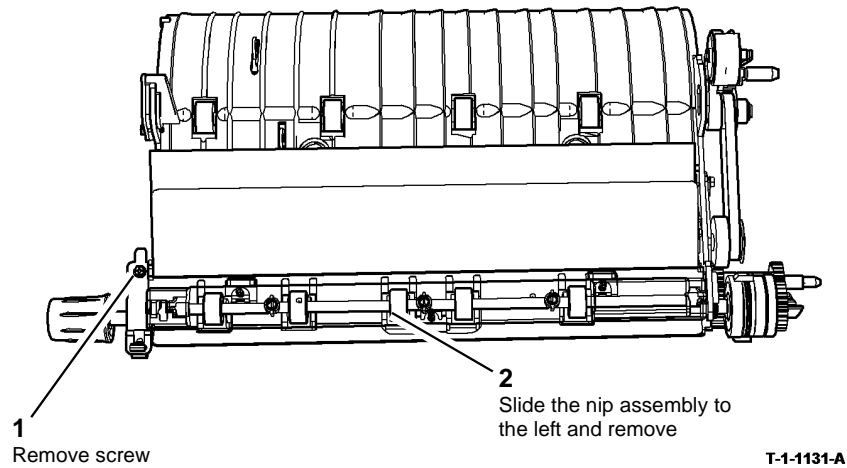

Figure 1 Nip assembly removal
2. Figure 1, remove the nip assembly.